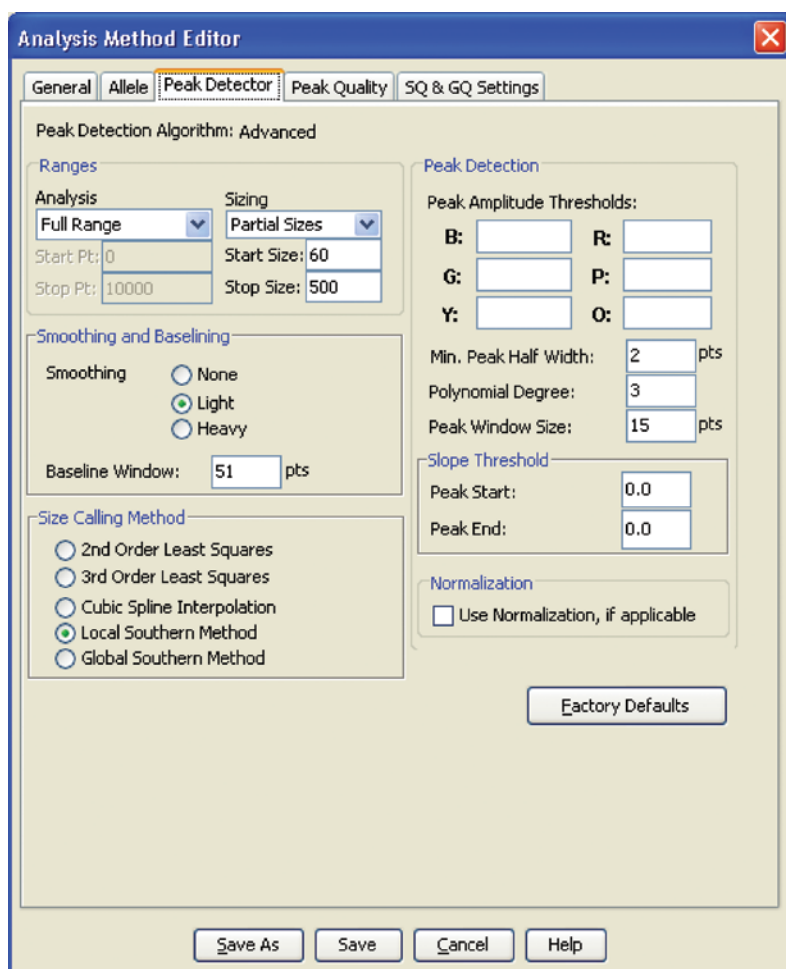

Figure 23. The GeneMapper® ID-X 'Peak Detector' tab.
9. Select the 'Peak Detector' tab (Figure 23). You will need to optimize these settings. In-house validation should be performed.